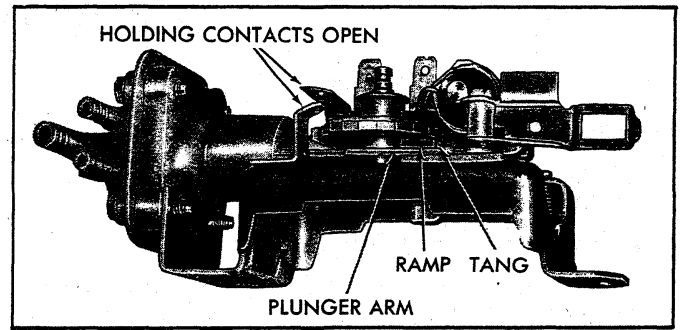

Fig. 73 - Releasing Pump from Lockout Position
- b. Manually operate pump clockwise to release pump from "lock-out" position (fig. 73).